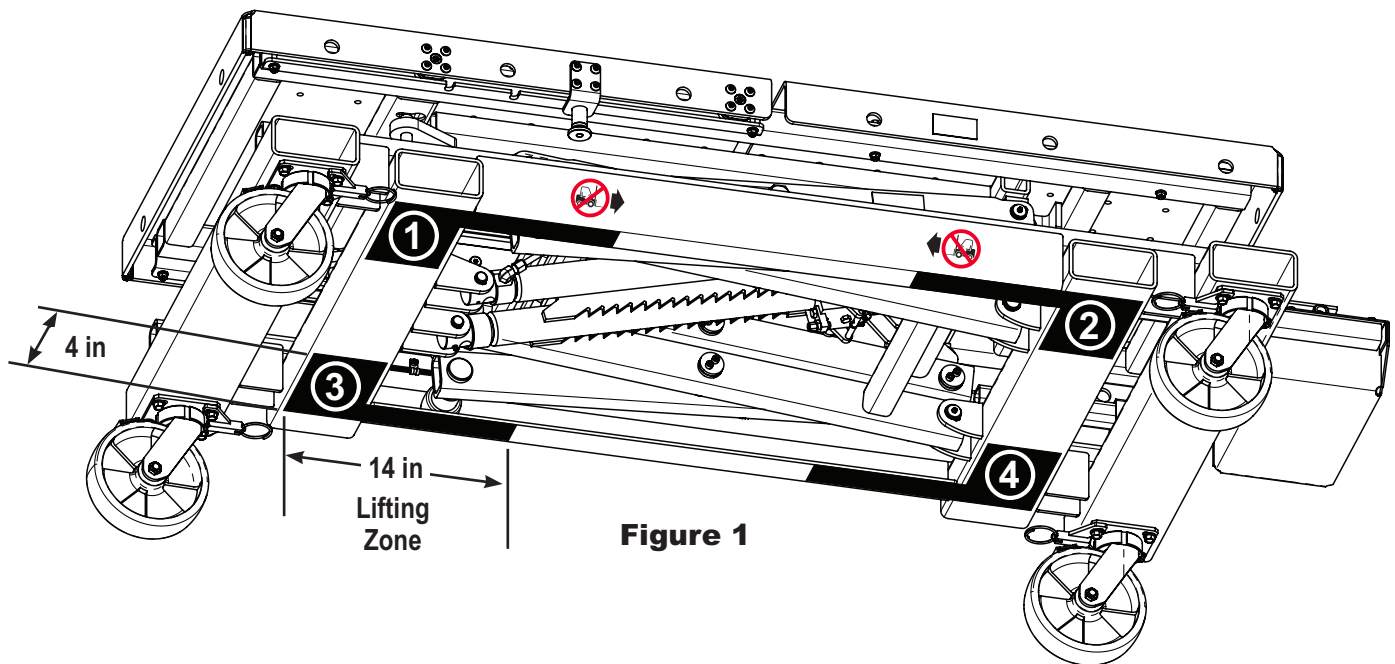

Figure 1
- b. Maintaining points of contact within the 4 lifting zones at all times. See Figure 1.